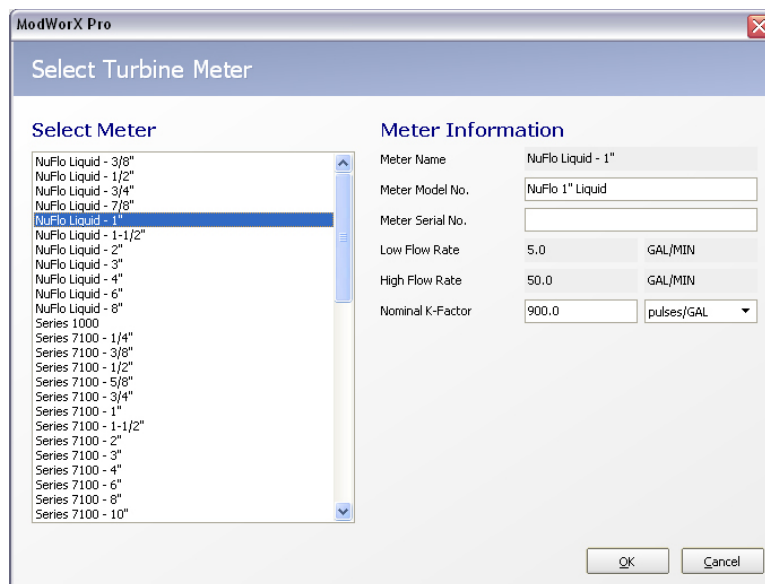

Figure 13.6
6. To select a new meter, click **Select Meter**. The Select Turbine Meter dialog will appear (Figure 13.6).